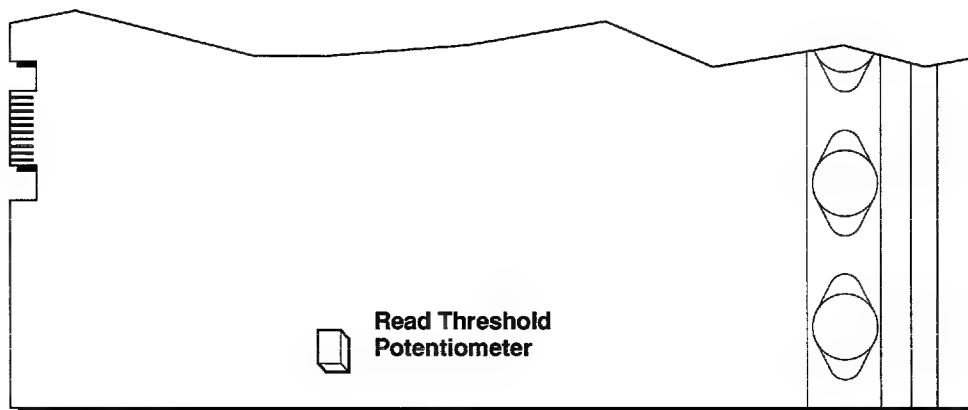

Figure 6-34. Location of Read Threshold Potentiometer
4. If the LEDs are not lighting as required in step 3, turn potentiometer R136, the Read Threshold Potentiometer, (Figure 6-34) clockwise until the LOAD and UNLOAD LEDs are off. Then turn the potentiometer counterclockwise until the requirements of step 3 are met.